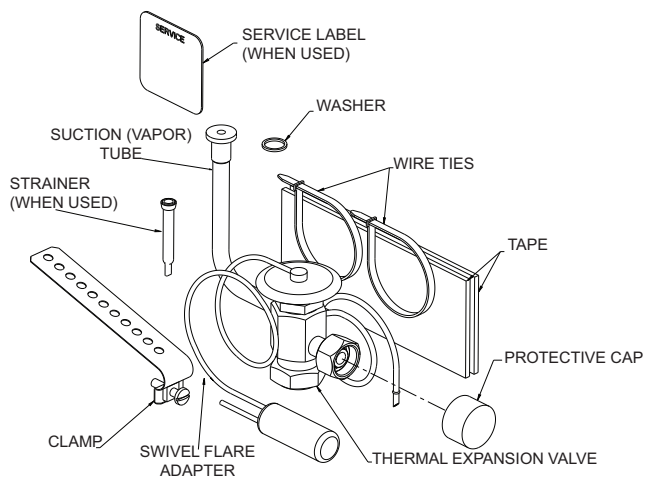
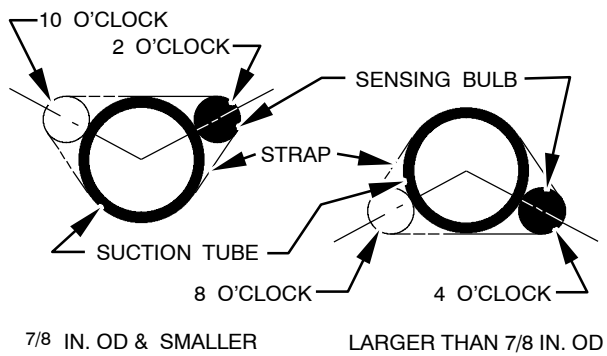
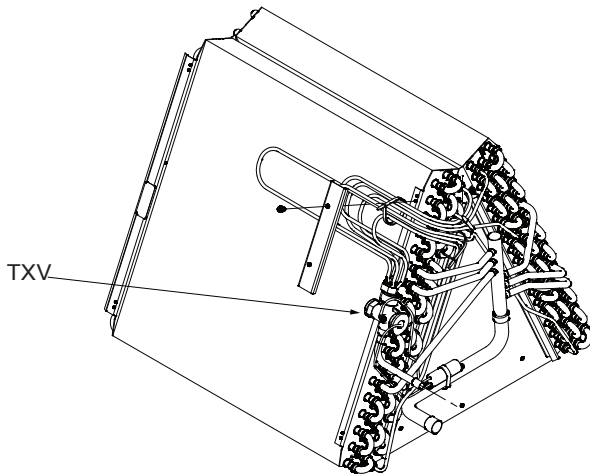

Fig. 2 - R-410A TXV Kit Contents
Fig. 3 - Position of Sensing Bulb
Fig. 4 - TXV Installation
4. Attach and secure TXV sensing bulb to horizontal section of vapor/suction line using clamps provided (see Fig. 2). Optimal positioning of sensing bulb can be noted in Fig. 3 and Fig. 4 positioning of sensing bulb. Insulate bulb with insulation tape and wrap with wire tie provided.